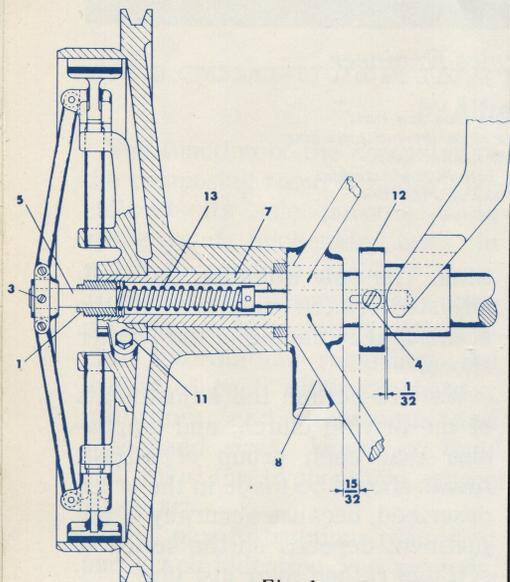

Fig. 1
Referring to Figure 1, remove screws 1 and 11, allowing the assembled clutch to slide off the drive shaft. Replace worn clutch shoes with new ones, making sure
7) To complete the adjustment of the clutch, set adjusting bushing 3 (Figure 1). This should be turned in until there is no hesitation in the machine when the pot locks up or when the slug is ejected from the mold. This adjustment sets the tension on the